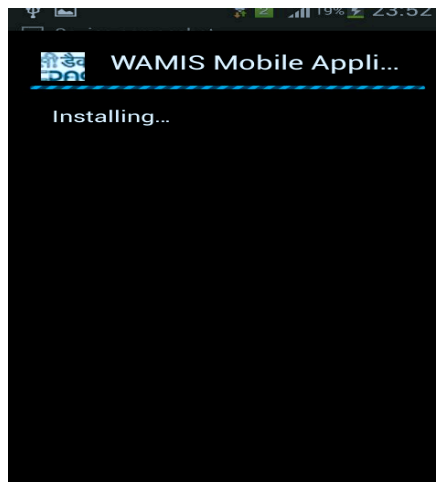

Fig 1.2.3
g. You can see the progress bar for installation; wait till operation is in progress (Fig 1.2.3)